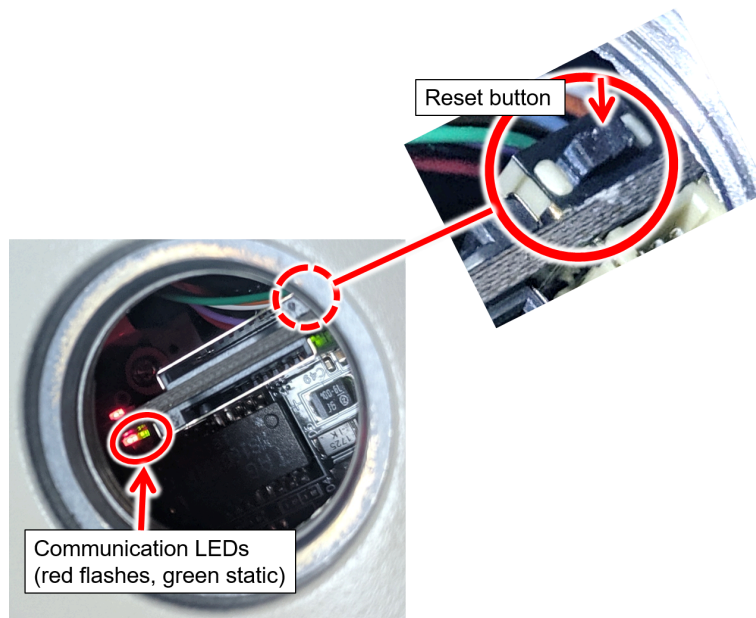

Figure 24. Factory Default (Reset) Button and LEDs
2. Locate the Factory Default (reset) button (see Figure 24).